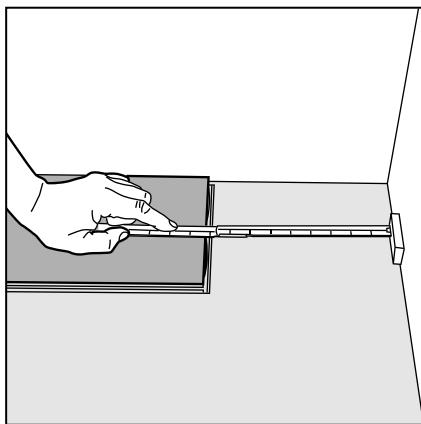

Figure 14 Last plank, first row
- Measure the length of this panel to fit (Fig 14), cut to correct length (minimum length 350mm).